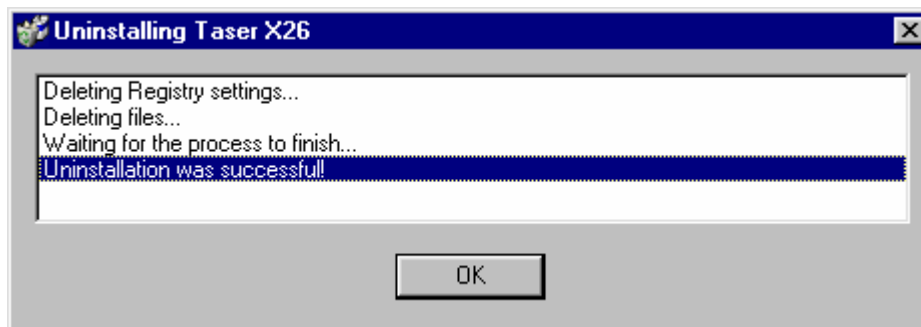

Figure 42
10. Click **OK** when the uninstall is finished (Figure 42).